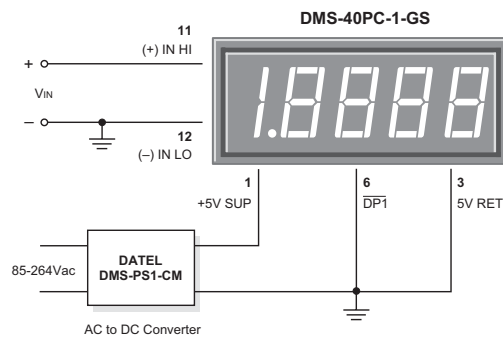

Figure 2. Single-Ended Input Configuration
1. Single-Ended Input Configurations: The DMS-40PC can measure single-ended signals with either positive or negative polarities. True single-ended inputs always have one of their two terminals at the same potential as the DMS-40PC's 5V RETURN (pin 3). Single-ended inputs are usually derived from power supplies that have a common ground with the meter's +5V supply. Figure 2 shows the recommended connections to be used with this type of input. Pin 12, (-) INPUT LO, is shown directly tied to ground. This connection to ground must be a separate wire or pc-board trace originating at V_{IN} 's negative terminal. This hook-up will normally eliminate display instabilities and errors caused by ground-loop currents which can occur if (-) INPUT LO is tied to ground at, or near, pin 3.